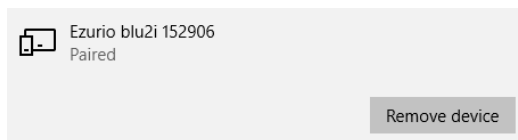

Figure 6.14 Bluetooth settings – device removal
The T-P22 units utilise a Bluetooth modem called Ezurio blu2i, the identifier (ID) of the unit should have been saved in the system configuration in the T-P2X Master software. However, if the PC is already paired with one or more T-P22 units, it may be confusing as to which is the one being connected. In this case it may be clearer if all the existing paired Ezurio units are removed by pressing on the icon and then “Remove device” (Figure 6.14) followed by a confirmation.